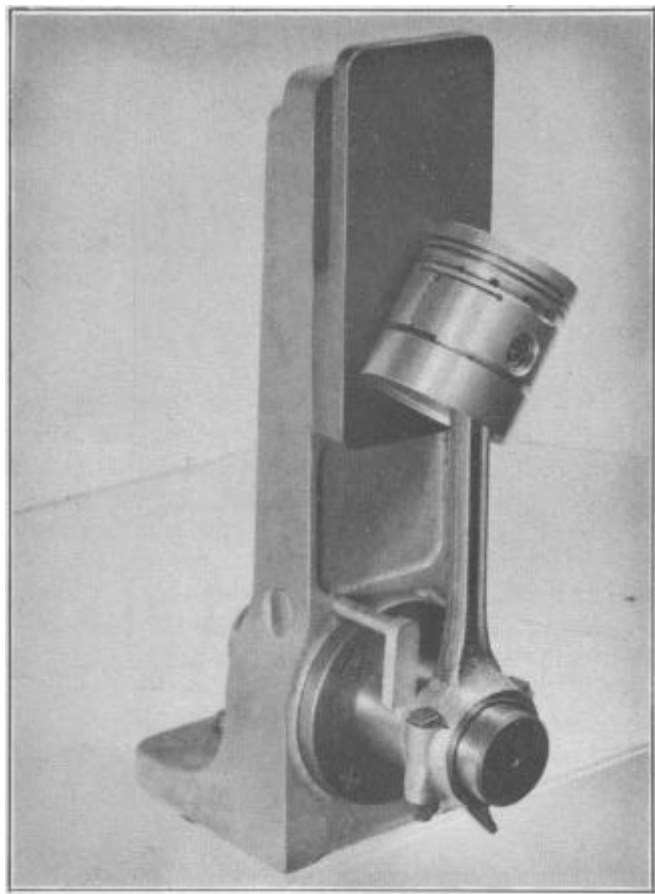

FIGURE 34
1. Mount the connecting rod and piston assembly on the alignment fixture and set the piston in line with the connecting rod, Figure 34.